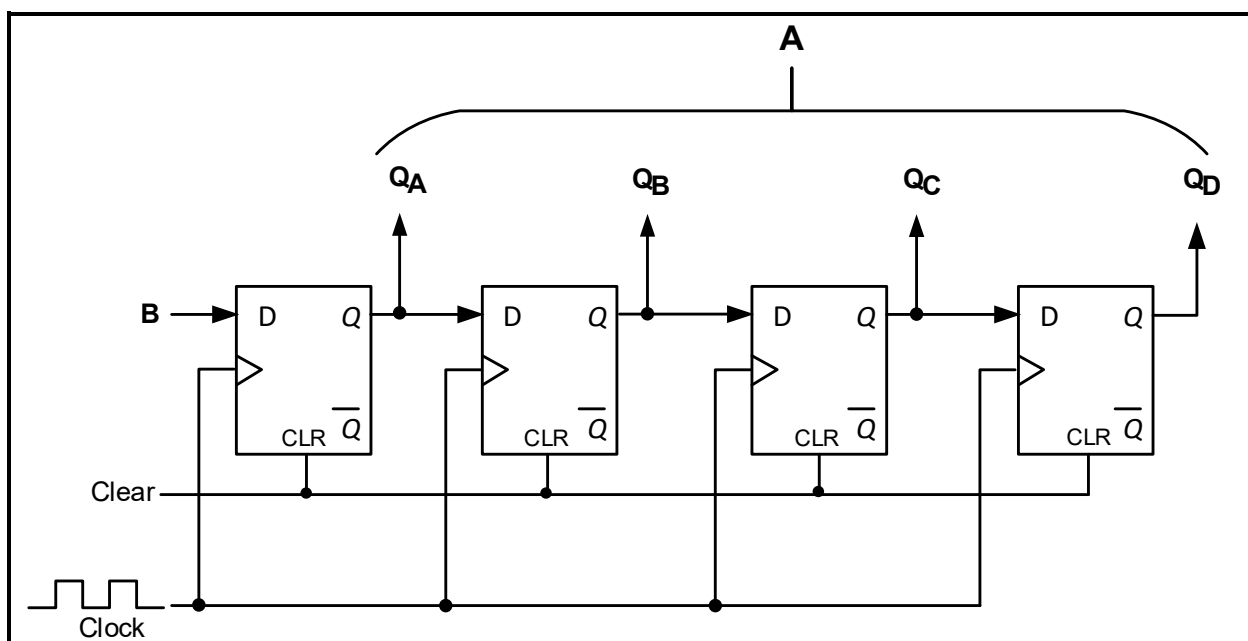

FIGURE 5.9: SHIFT REGISTER
- 5.9 Refer to the block diagram of a shift register in FIGURE 5.9 below and answer the questions that follow.
- 5.9.1 Identify the shift register in FIGURE 5.9 above. (1)